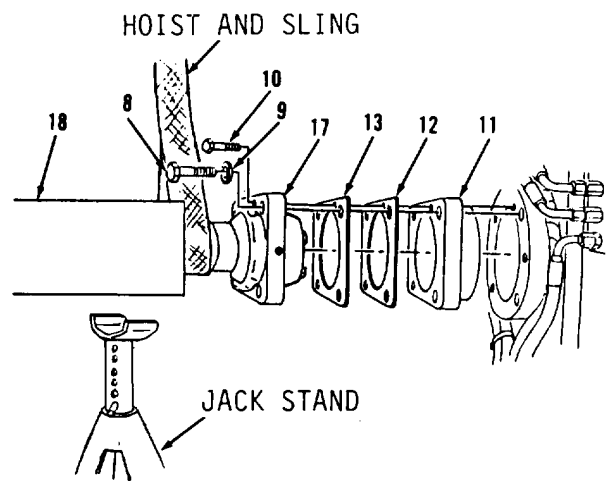

Figure 12-17.
3. Remove two bolts (1), washers (2), cap (3), two shims (4), inserts (5 and 6) and two shims (7) from rear corners of drawbar (18).
4. Remove four bolts (8), washers (9) and two bolts (10) at front corner of drawbar (18, Figure 12-17).
5. Slide cap (17) onto drawbar (18).
6. Lower drawbar (18) onto jack stands with hoist and sling.
8. Remove adapter (11) and shims (12 and 13) from front corner of drawbar (18).